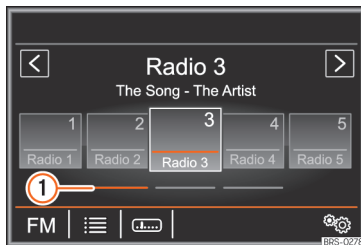

Fig. 197 RADIO main menu.
- **OR:** Press one of the function buttons » Fig. 197 ①